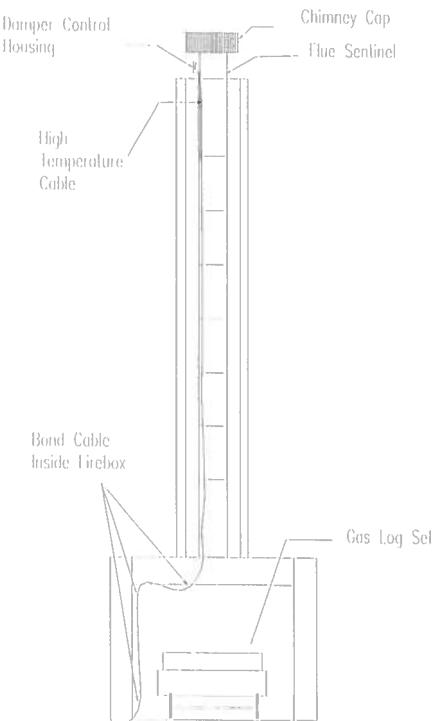

Figure 2
4. When the cable enters the firebox, the cable must be positioned to keep it out of excessive heat and direct contact with the flames from the log set. Using bonding material, bond the cable to one side or the other and down to the bottom of the firebox. Next direct the cable to the gas valve and connect as directed in the Installation Manual. As shown in Figure 2.